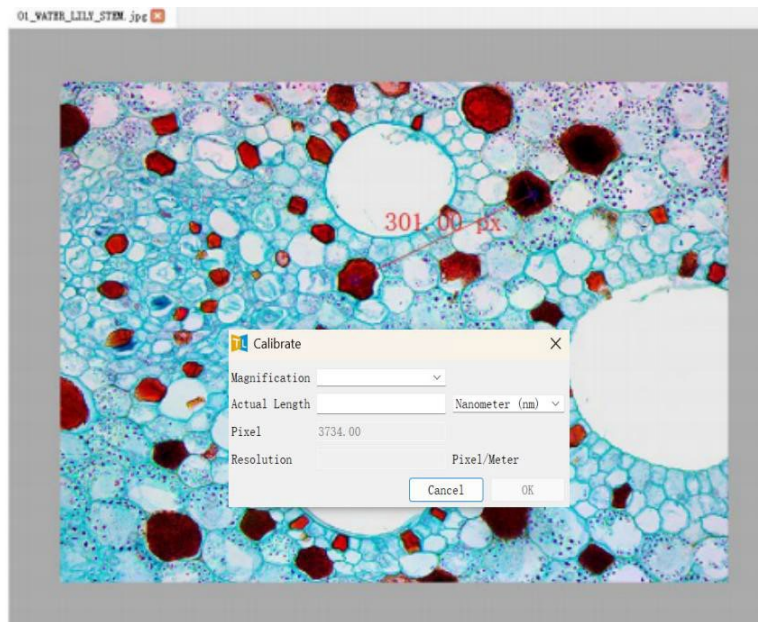

Figure 6-6 Example of Calibration Interface
- 2) When ALTRAvue LITE enters the calibration mode, the video/image window displays the calibration line and calibration window, as shown in Figure 6-6. The software will display the pixel value occupied by the calibration line;